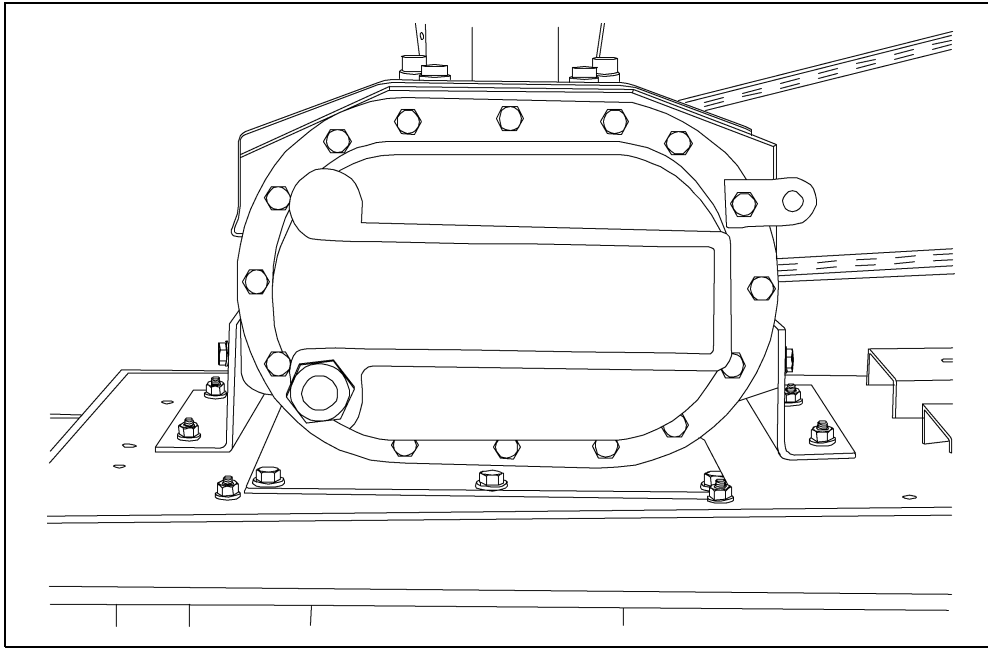

Figure 7H
7. Check the oil level of the blower. The oil level should be at the center of the sight glass. Add part #AS-0886, if required, through the breather plug on top of the blower case. (See Figure 7H.) See the maintenance schedule on Page 12 for the frequency of oil changes.